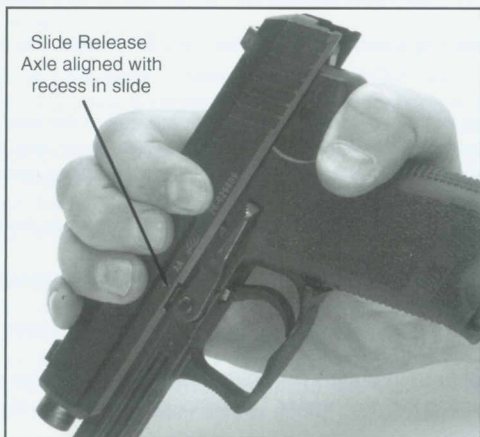

Figure 2
2. Using the firing hand, retract *and hold* the slide to the rear so that the axle of the slide release is visible through the recess in the left side of the slide (See Figure 2).